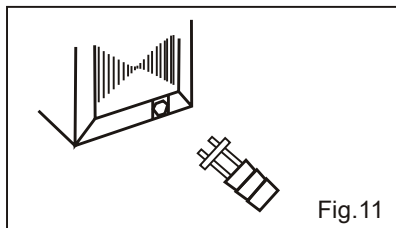
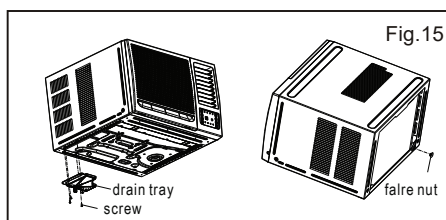

Fig.11
Fig.15
7. Install the drain lube connection into the hole provided at the rear of the air conditioner chassis. (Fig.11) To meet different requirements of different types of air conditioner, there are two methods of choice to treat the condensed water: Bottom drainage or back drainage. For bottom drainage, the drain tray is fixed in position through four pcs of screws and use the flare nut to block the back drainage hole. (Fig.15) For Back drainage, use the flare nut to block the bottom drainage hole and use the water outlet pipe to connect the back drainage hole. Increase the sealing ring to prevent water leakage. (Fig.16)